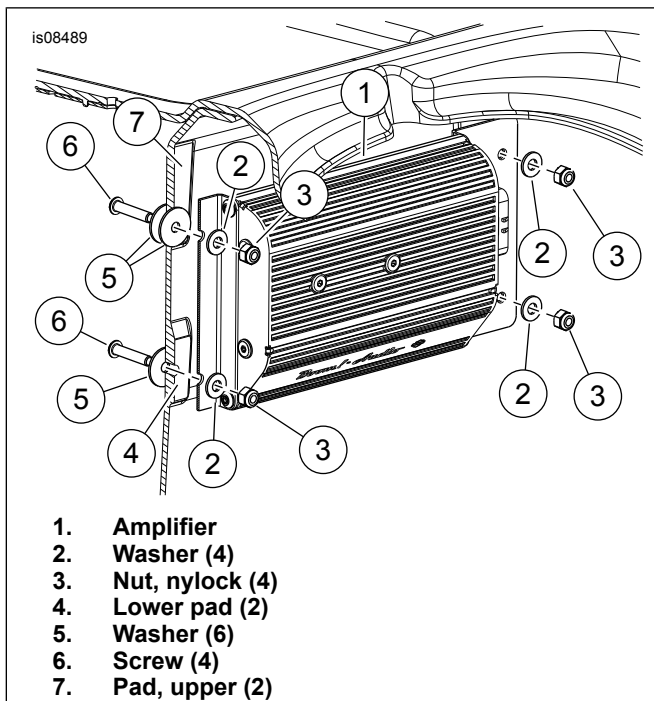

Figure 2. Amplifier Installation
- See Figure 2. Position the amplifier and brackets (1) over the four raised pads (4 and 7). Position the connector toward the vehicle left side as shown. Center the lower holes over the lower pads (4).
- See Figure 2. Place a washer (5) on screws (6). Install through holes from the inside of the trunk. From the outside of the trunk, place an extra washer (5) over the top screws only to act as a spacer. Position the amplifier and brackets (1) over the four raised pads (4 and 7). Position the connector toward the vehicle left side. Install washers (2) over the brackets and screws. Secure with nut (3). Tighten nut to: